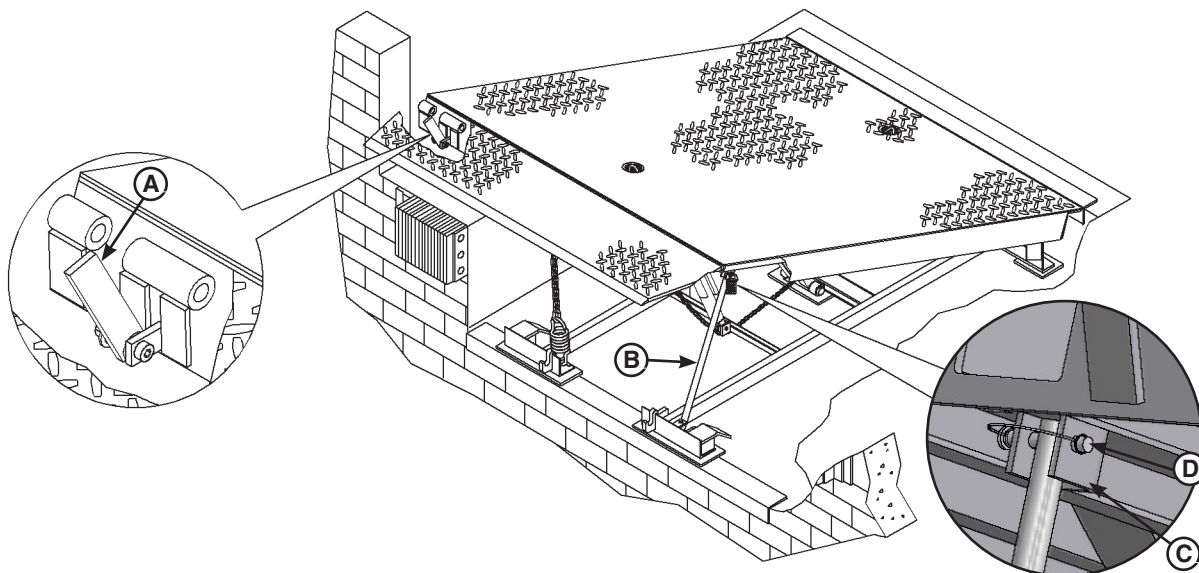

Figure 20
Whenever maintenance is to be performed under the dock leveler platform, support the platform with the platform maintenance prop (B) (Figure 20).
Put the platform maintenance prop in the service (upright) position so that the prop is cradled in the U-Bracket (C) (Figure 20). Lock the platform maintenance prop in this position by inserting the prop pin and clip (D) or attaching an OSHA-approved lockout device\* and tagout device\*, supplied by others.
If maintenance requires that the lip be in the extended position, raise the lip by hand and support the lip with the lip maintenance prop (A) (Figure 20).